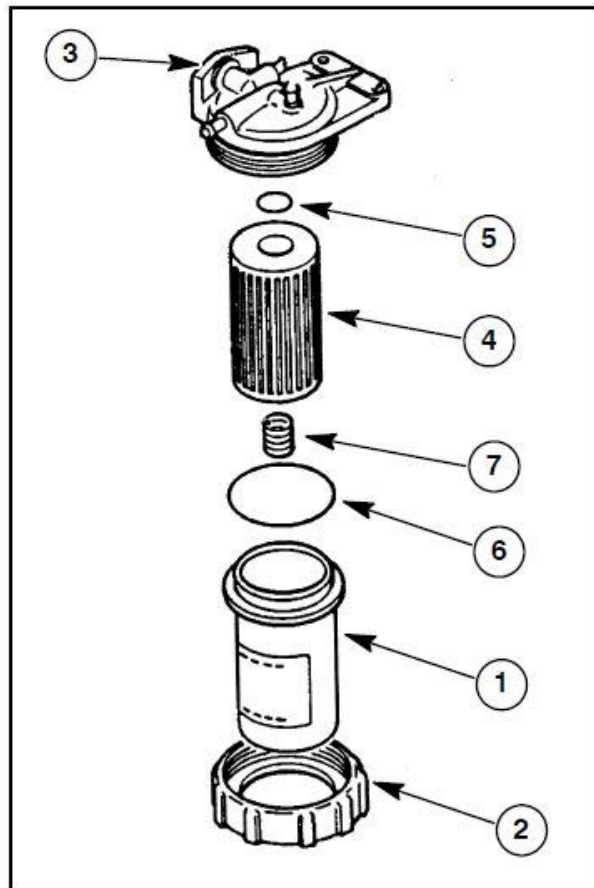

Figure 3-8
2. Remove the sediment bowl (1) in Figure 3-8, by rotating the retaining nut (2) in Figure 3-8.
3. Open the fuel shutoff valve (3) in Figure 3-8, to drain any remaining water from the tank.
4. Discard the old element (4) in Figure 3-8, and install a new element.
5. Inspect the O-rings (5) in Figure 3-8, and (6) in Figure 3-8, and replace if necessary.
6. Install spring (7) in Figure 3-8, between bottom of element and bowl.
8. Open the fuel shutoff valve (the handle should be pointing to the "ON" position) (3) in Figure 3-8, so fuel will flow to the filter.